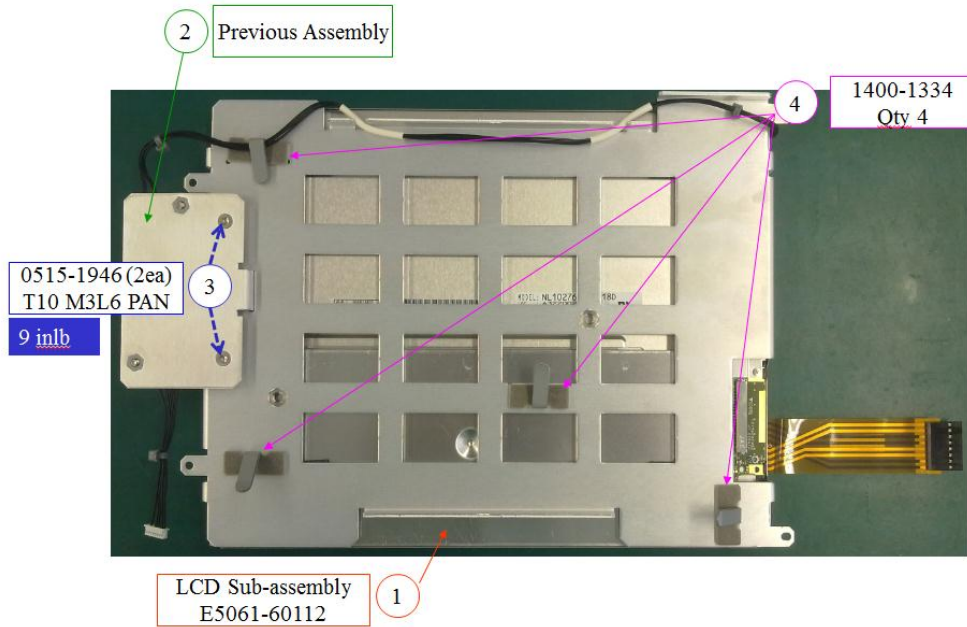

Figure 1-5
4. Install the inverter assembly onto the new LCD T/P display assembly (with LED backlight). Refer to figure 1-5 for details.